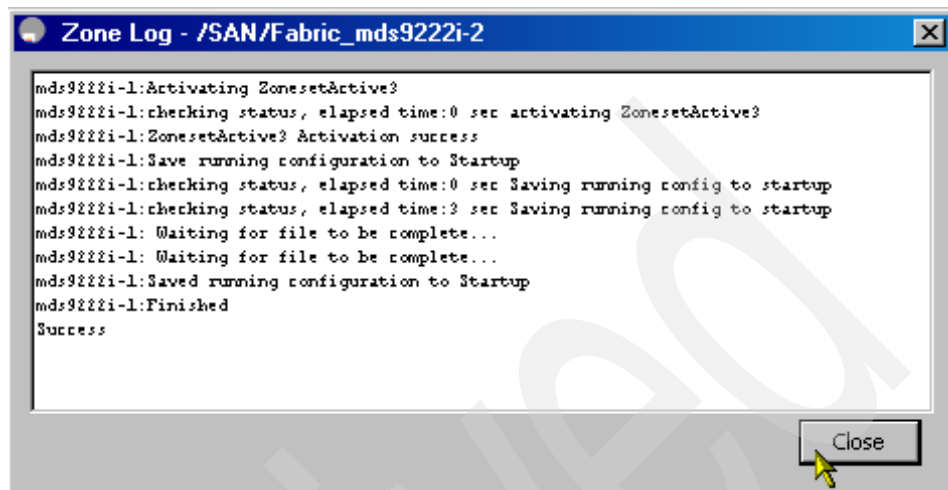

Figure 6-71 Monitoring status for the zoneset activation
7. Monitor the status of the activation (and save to the startup configuration) in the Zone Log window, as shown in Figure 6-71.